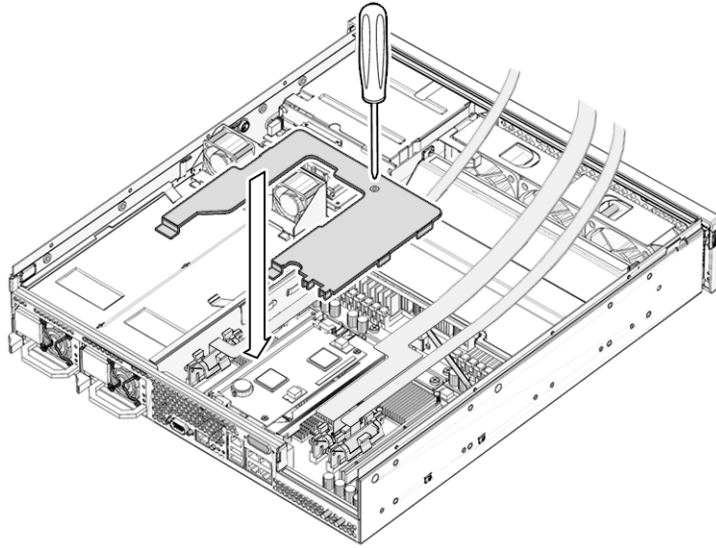

FIGURE 6-2 Installing the U-Plate
3. If previously removed, set the U-plate over the system controller bracket and install the two screws that hold it in position (FIGURE 6-2).